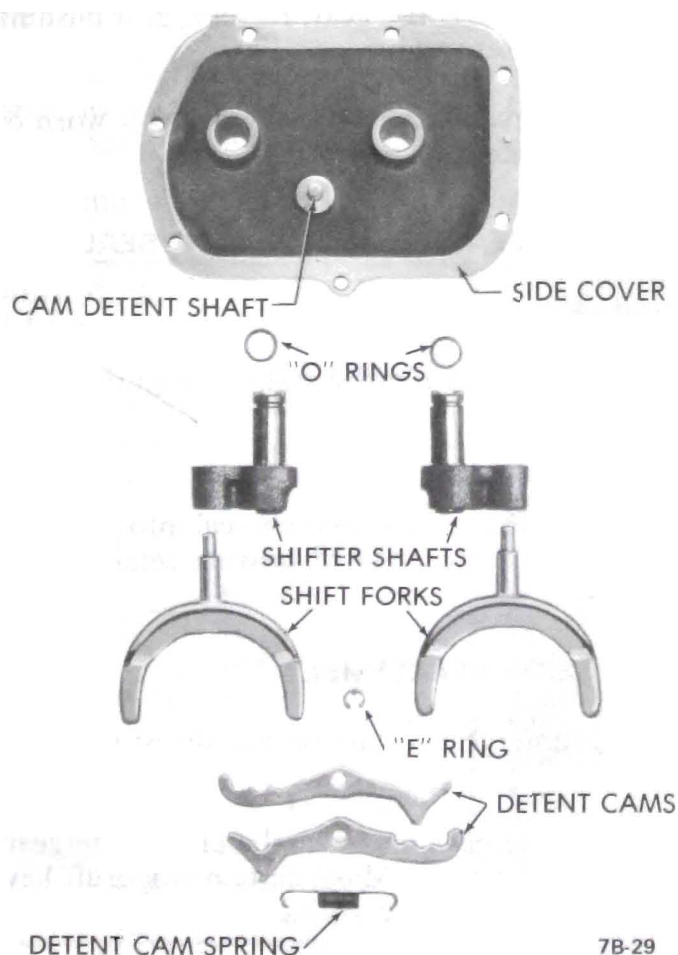

Figure 7B-29 - Exploded View of Side Cover
2. From each end of countershaft, remove spacer and 27 needle bearings. See Figure 7B-27.